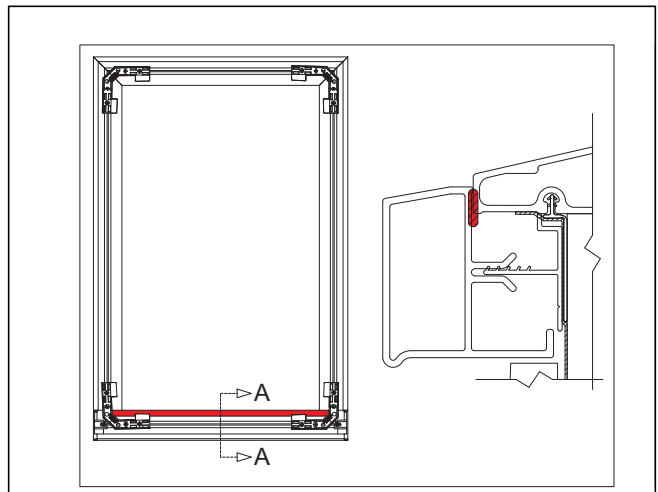

Figure 19
7. Apply a 3/16" (5) bead of clear class 25 grade NS sealant to the sill piece near the bump in the profile the length of the part on the interior of the casing as shown in *figure 19*.